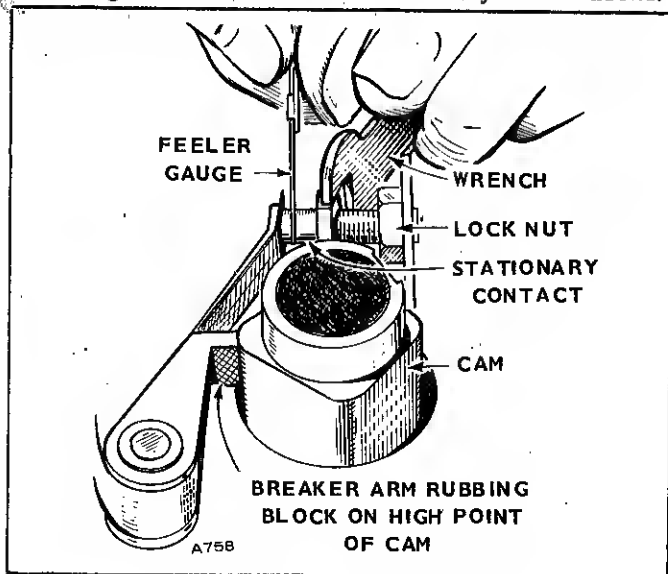

FIGURE 41. POINT ADJUSTMENT
8. Rotate the drive shaft to obtain maximum breaker gap and set the gap for .020" (Fig. 41).